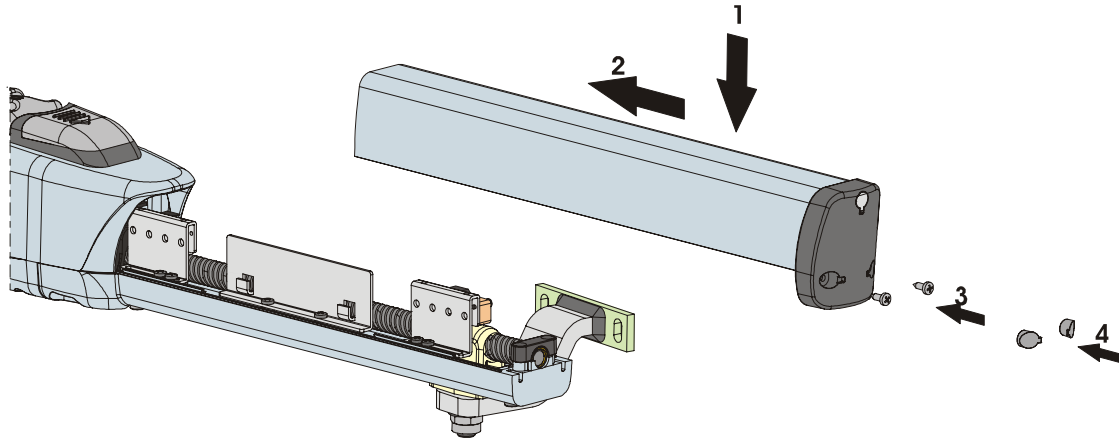

Fig. 25
- 6) Position again the cover by sliding it on the lower casting and make sure that it reaches the stop, Fig.25.
- 7) Screw both lower screws, Fig.25.